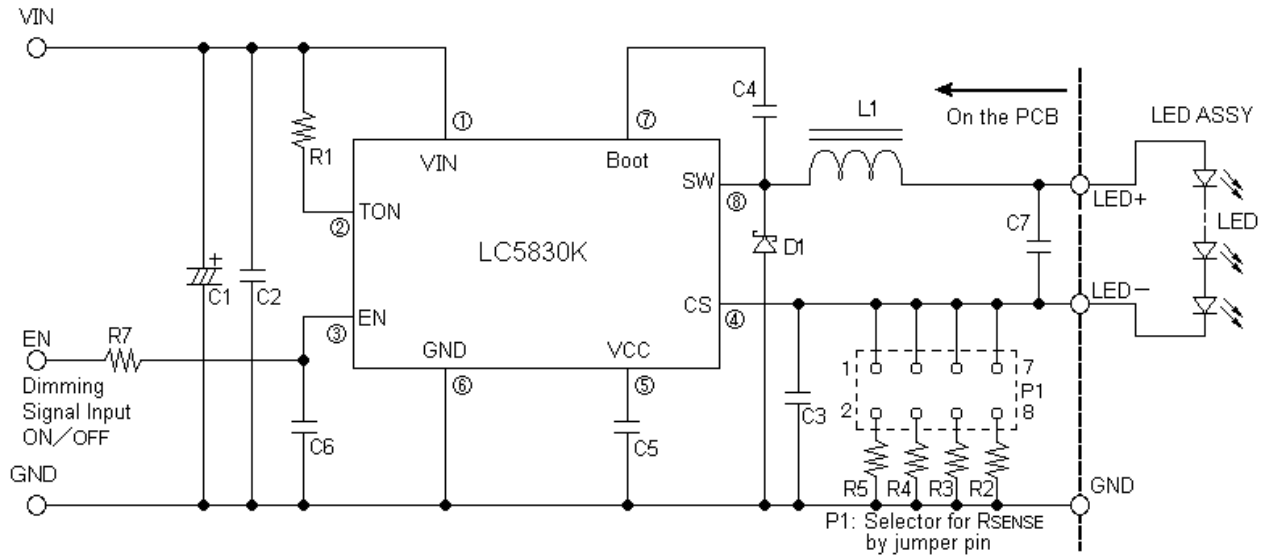

fig.19 LC5830K The circuit diagram of Demo-board
- 3) The highest di/dt occurs at the instant the upper FET turns on and the asynchronous diode D1 undergoes reverse recovery as shown in loop 3. The input capacitors C_{IN} must deliver this high instantaneous current. C1 (fig19 /electrolytic capacitor) should not be too far off C2(fig19 /ceramic capacitor). Therefore, the loop from the ceramic input capacitor C2 through the upper FET and asynchronous diode to ground should be minimized. Ideally this connection is made on both the top (component) layer and via the ground plane.
- 5) Keep sensitive analog signals (CS, and R1/fig19 of switching frequency setting) away from the SW polygon.
- 6) For accurate current sensing, the LED current sense resistor R_{SENSE} (R2 – R5/fig19) should be placed close to the IC.
- 7) Place the boot strap capacitor C4(fig19) near the BOOT node (pin 7) and keep the routing to this capacitor short.
- 8) When routing the input and output capacitors (C1, C2, and C7/fig19 if used), use multiple vias to the ground plane and place the vias as close as possible to the LC5830K pads.